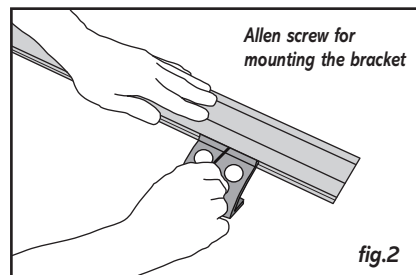

fig.2
- Now clamp the brackets to the aluminium profile using a 2.5 mm Allen key (fig.2).
- Lock the assembly using a self-tapping screw at both ends of the aluminium profile (fig.2).